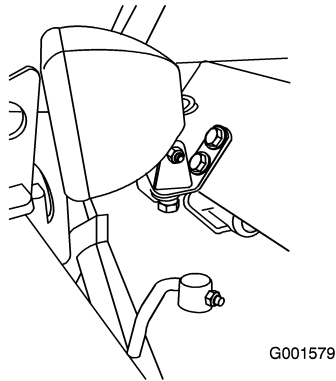

Figure 15
- Install the 2 front lamps (with brackets) onto the front of the footrest with the bolts, curved washers, and hex nuts provided in the kit (Figure 15).